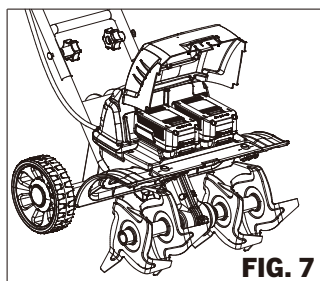

FIG. 7
1. Open the battery compartment cover and slide both batteries in until they click to lock it into position, then close the battery compartment cover (Fig. 7).